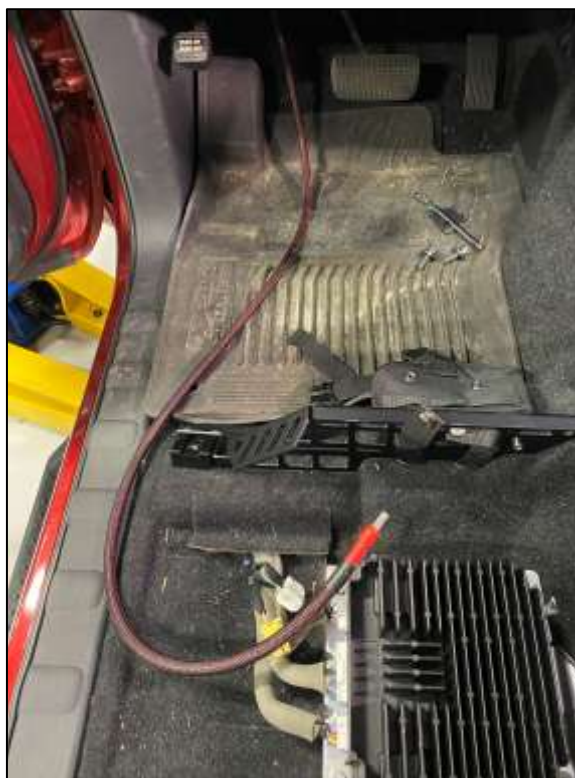

Figure 9
14. Locate the Power Cable. Push the braided side into the grommet hole and into the footwell of the Driver's Side. A small amount of carpet may need to be peeled back to allow the cable to pass through. Push the cable through until the Rubber Grommet on the Cable is against the firewall. Push on the Grommet to seat it. *Figure 9.*